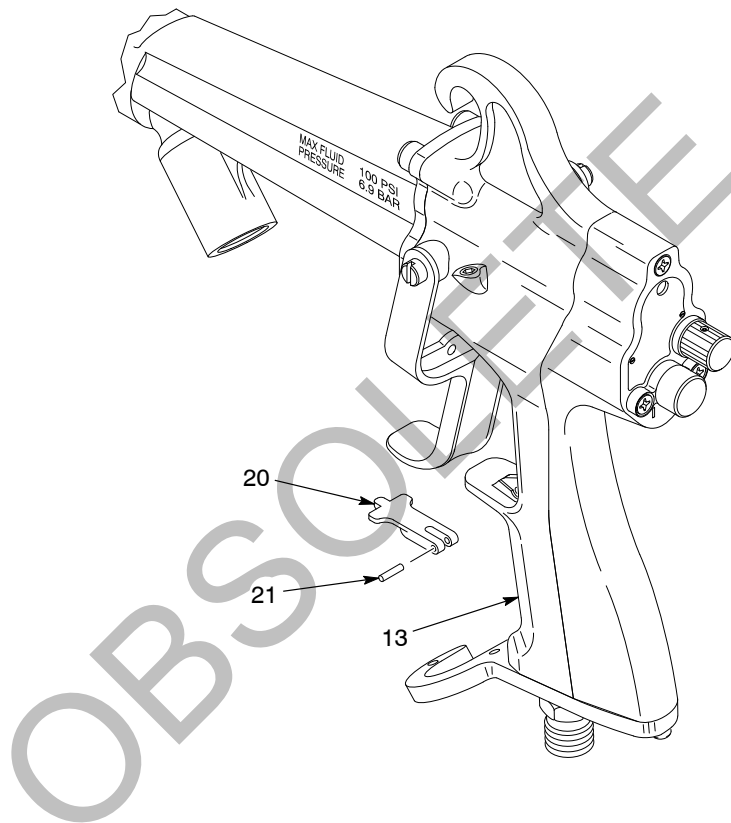

Figure 7-3 Trigger Lock Replacement
1. See Figure 7-3. Drive the pin (21) out of the trigger lock (20) and handle (13) with a small dowel pin.